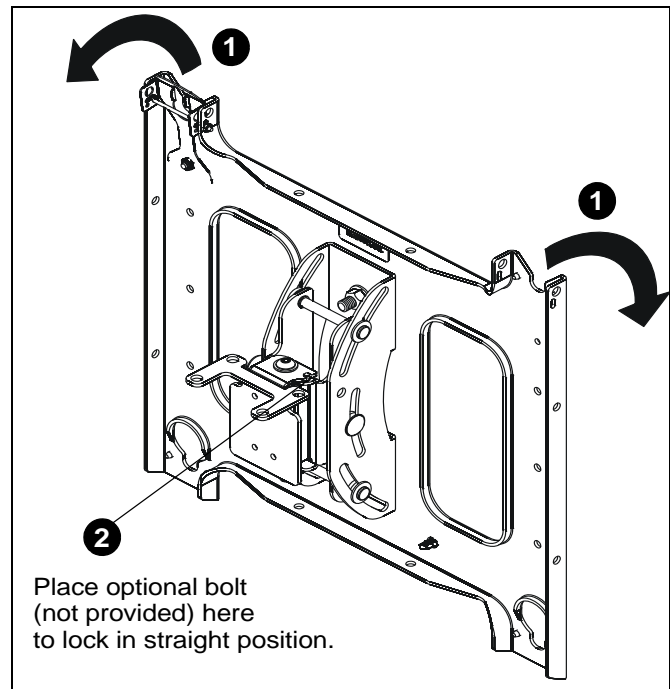

Figure 5
1. Swivel display to the left or right up to 15° until desired position is reached. (See Figure 5)
2. If leaving display in straight position, it is recommended that a bolt (not provided) be placed through the hole on the swivel device to lock the display into that position. (See Figure 5)